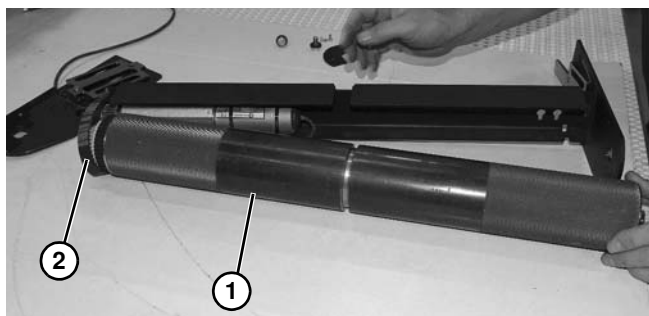

Figure 148
9. Remove pulley (**Figure 148, item 1**) from belt (**Figure 148, item 2**).